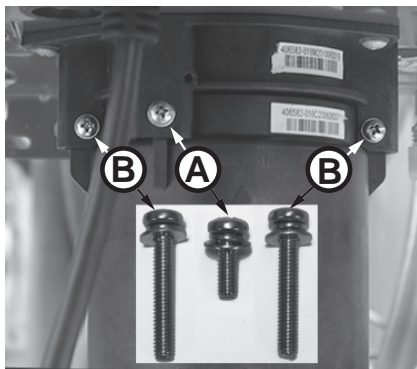

Figure 188 - Identify cartridge screws
- 5 Locate the three (3) screws securing the X3®/Bypass cartridge as shown in Figure 188. Remove the (A) M4-12mm screw and the two (B) M4-25mm screws from cartridge. Place screws aside in a safe place for reinstallation.